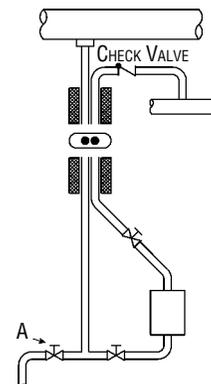

Fig. 2-6.
6. If the return line is overhead, run vertical discharge line adjacent to drain line to top of return header and insulate drain line and trap discharge line together. See Fig. 2-6.